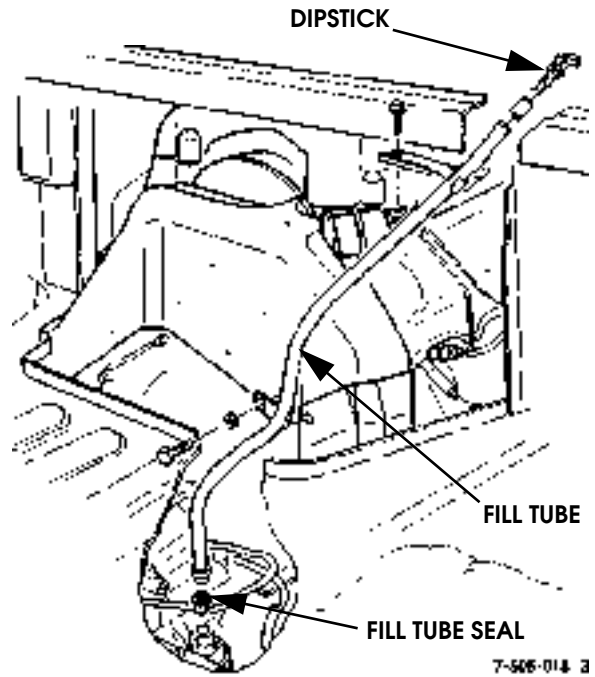

Figure 5-33: Fill Tube Attachment
1. Remove dipstick from fill tube (Figure 5-33).
3. Remove bolts attaching fill tube bracket to heat shield and intake manifold (Figure 5-33).